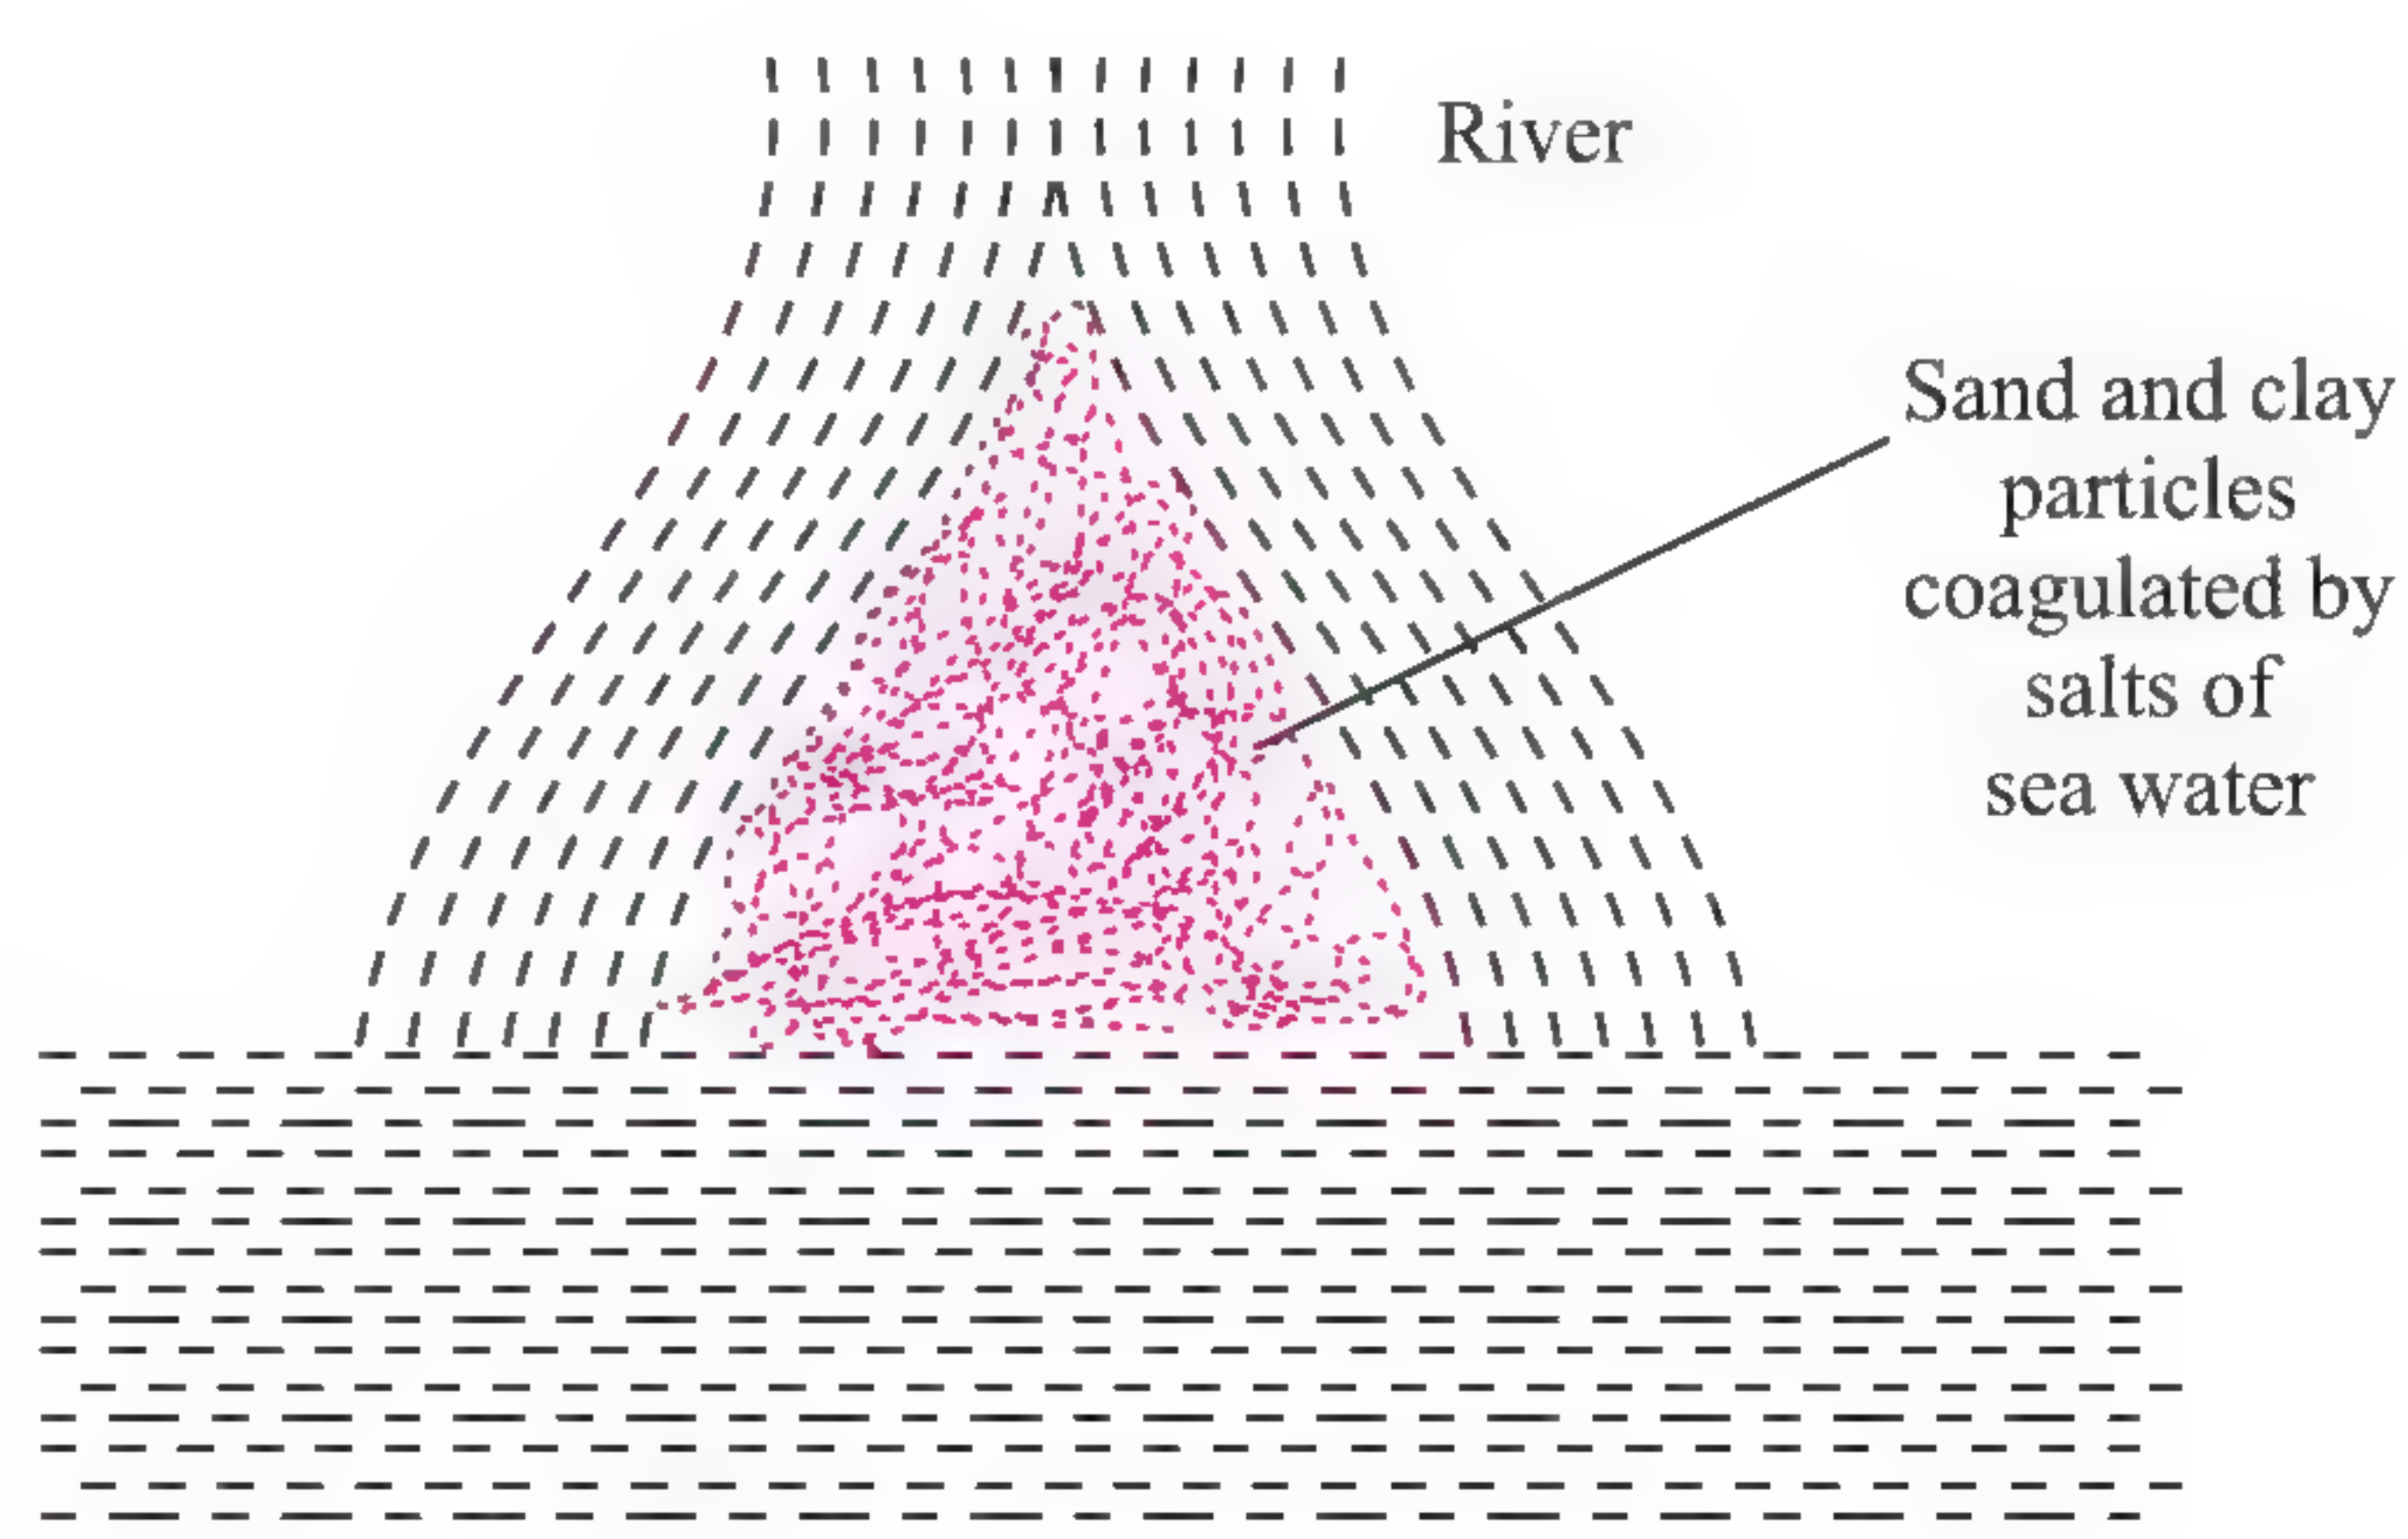

Fig. 5.27 Formation of delta
- Formation of delta:** River water contains charged colloidal particles of clay, sand, and many other materials. Sea water is a very big store house of a variety of electrolytes dissolved in it. As soon as river water comes in contact with sea water, the electrolytes present in sea water coagulate the suspended colloidal particles which ultimately settle down at the point of contact. Thus, the level of the river bed rises. As a result, water adopts a different course and delta is formed in due course of time (Fig. 5.27).